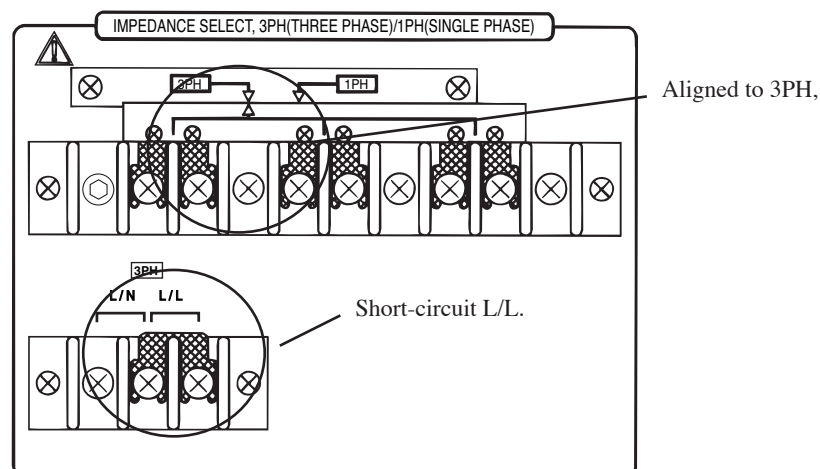

Fig.5-1 Three-Phase Circuit Settings
3. Make sure that terminal board connections on both units is made as shown in Fig. 5-1.